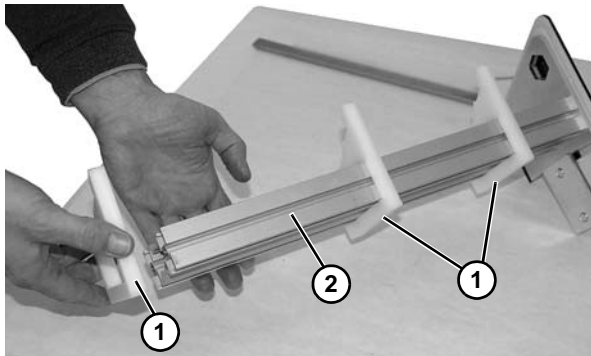

Figure 98
- Remove gap filler plates (Figure 98, item 1) from crossmember (Figure 98, item 2).